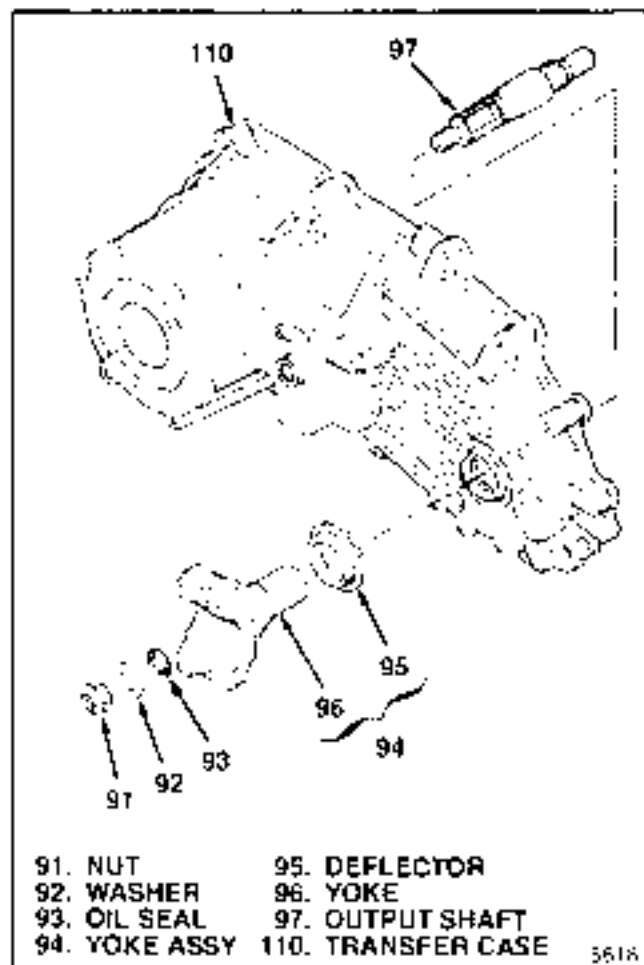
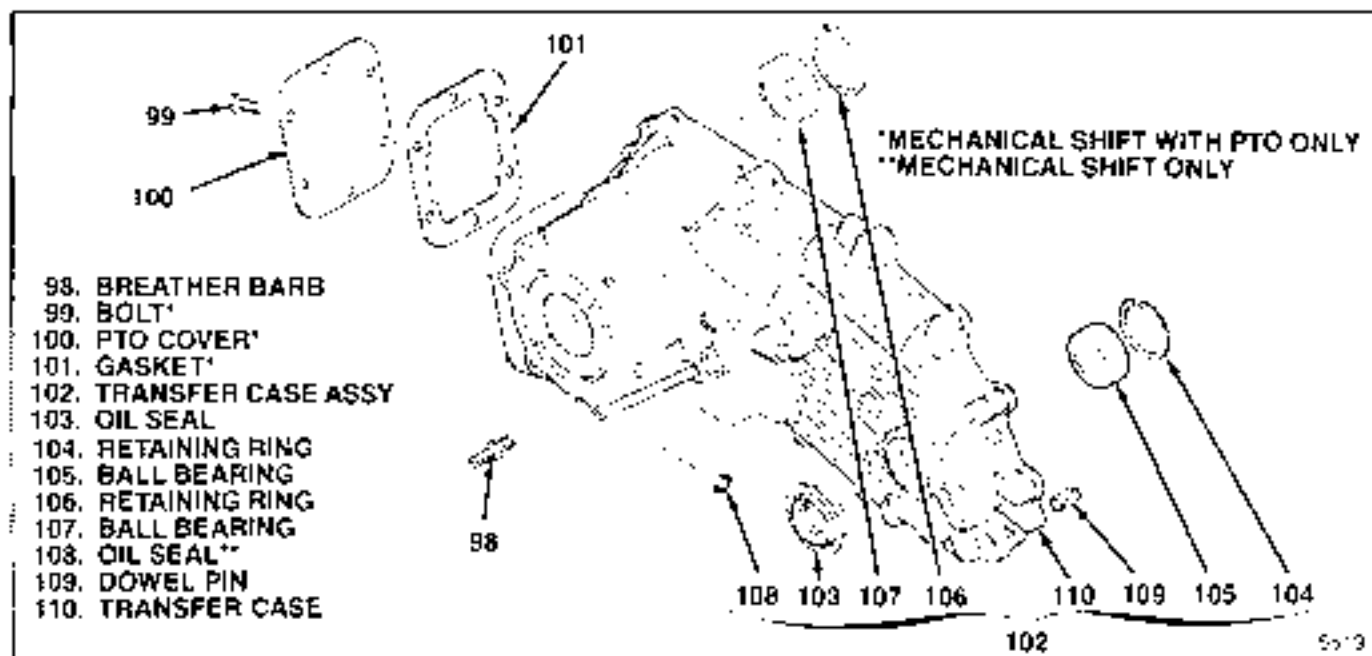

Figure 3-15. Front Output Shaft Group
Figure 3-16. Transfer Case Assembly
- c. Remove carrier assembly (87) from transfer case (110).
- d. Remove retaining ring (88) and pull ring gear (89) from transfer case (110).
- e. On mechanical shift units with PTO, remove PTO gear (90).
**3-18. REMOVAL OF FRONT OUTPUT SHAFT GROUP.** From remaining transfer case assembly (91 through 110), remove the following (see figure 3-15):
- a. Remove nut (91) and washer (92).
- b. Pull yoke assembly (94) and remove oil seal (93).
- c. Press deflector (95) from yoke (96) only if replacement is required.
- d. Remove output shaft (97) from transfer case (110).
**3-19. DISASSEMBLY OF TRANSFER CASE ASSEMBLY.** Disassemble as follows (see figure 3-16):
- a. Remove leather boot (98).
- b. On units with PTO, remove bolts (99), PTO cover (100) and gasket (101).
- c. Pull oil seal (103).
- d. Remove retaining ring (104) and pull ball bearing (105).
- e. Remove retaining ring (106) and pull ball bearing (107).